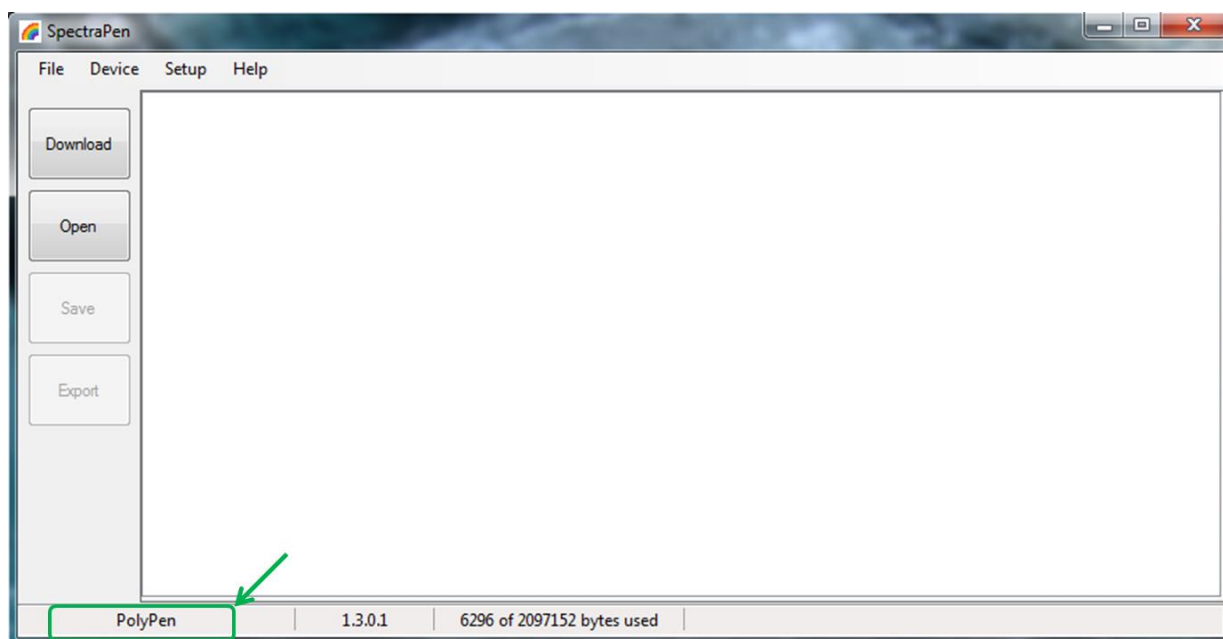

Fig. 17 PolyPen device connection in SpectraPen software
6. When the device is connected properly, message "**PolyPen**" appears in the bottom left part of the screen (please note the green rectangle in the picture below) and a small USB icon will appear in the top right corner of the PolyPen device display (Fig. 17).